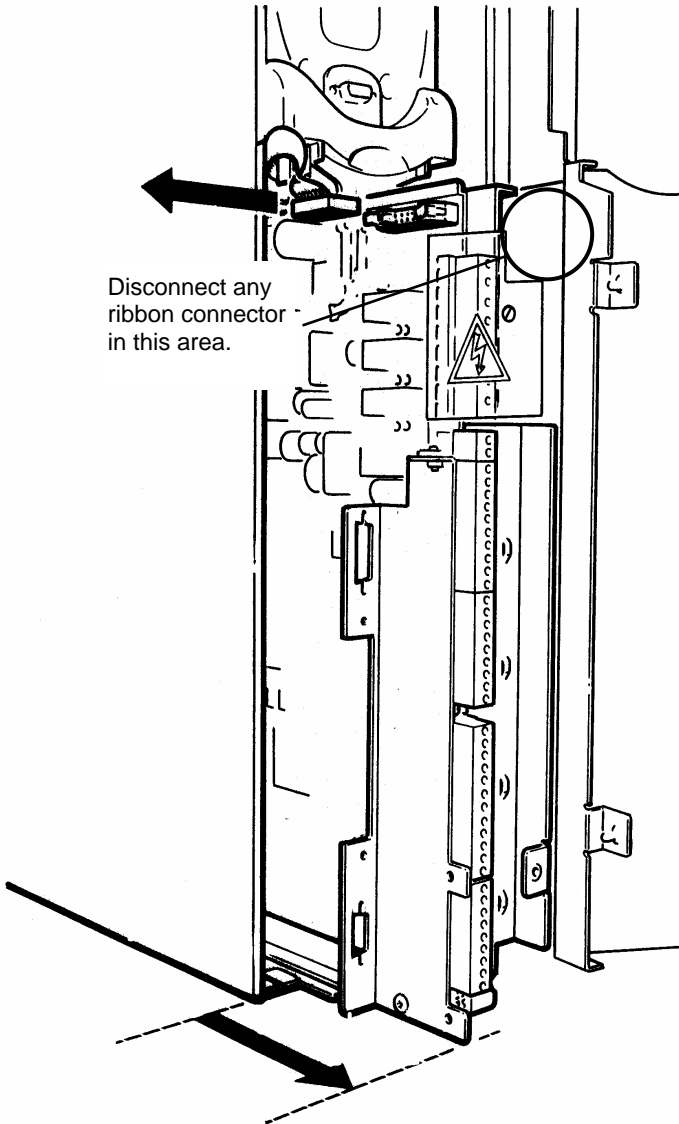

Figure 3-2 Drive module – removing the control board
- Slide the control board completely forward out of the drive, disconnecting any ribbon connectors located at the top of the board, (see Figure 3-2), and noting their positions for ease of re-connecting.